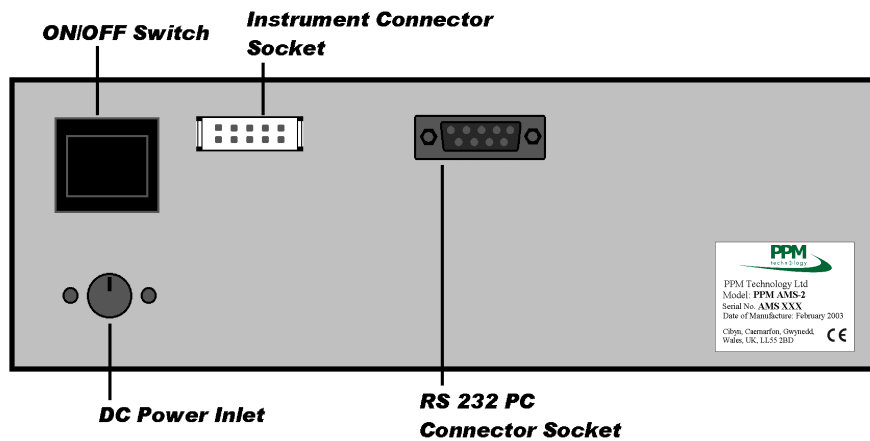

Fig 1.3 AMS-2 Back Panel
- Back Panel** All electrical and communication connectors are located on the AMS-2's back panel (Fig 1.3). The external power supply unit is connected to the 8 pin mini-DIN Socket and the handheld meter is connected to the Instrument Connector Socket using the supplied ribbon cable. The RS232 connector is used for downloading logged data to a PC with the optional Data Download software.